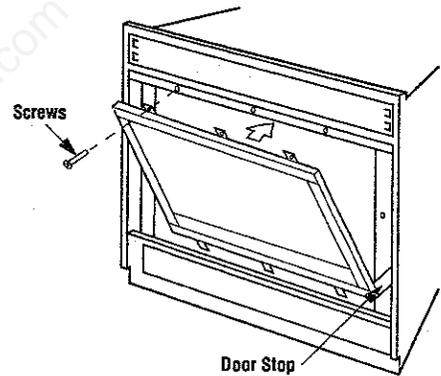

Figure 26
Position the door frame in front of the firebox opening, with the joint in the gasket down (Figure 26). Locate the three (3) tabs at the bottom edge of the door frame into the three (3) brackets at the base of the fireplace front opening. Lean the door frame back towards the fireplace ensuring that the gasket seats evenly as the door frame draws shut. Install the three (3) 1/4"-20 x 1" Phillips pan head screws removed previously and tighten to secure. Ensure that the tab on the bottom of the door frame engages the door switch.